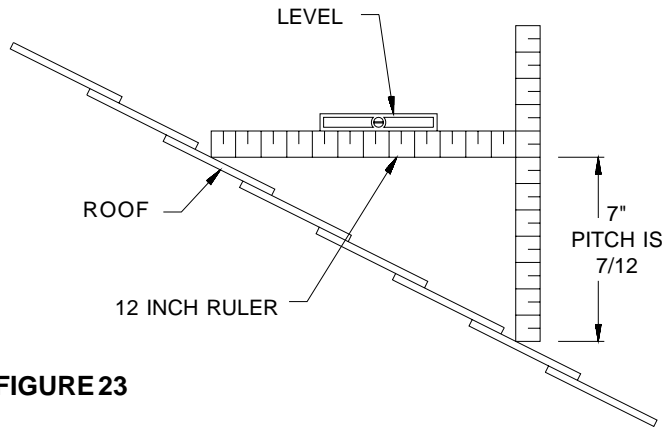

FIGURE 23
1. Ensure that you have the proper roof flashing by checking your roof pitch using a level and two rulers, or by using a roof pitch card. See figure 23.